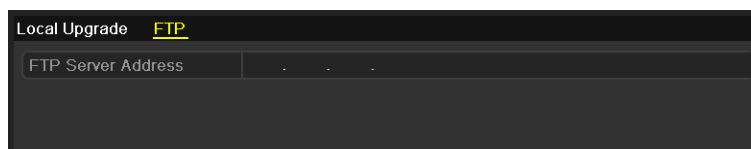

Figure 12. 8 FTP Upgrade Interface
2. Click the **FTP** tab to enter the local upgrade interface, as shown in Figure 12. 8.